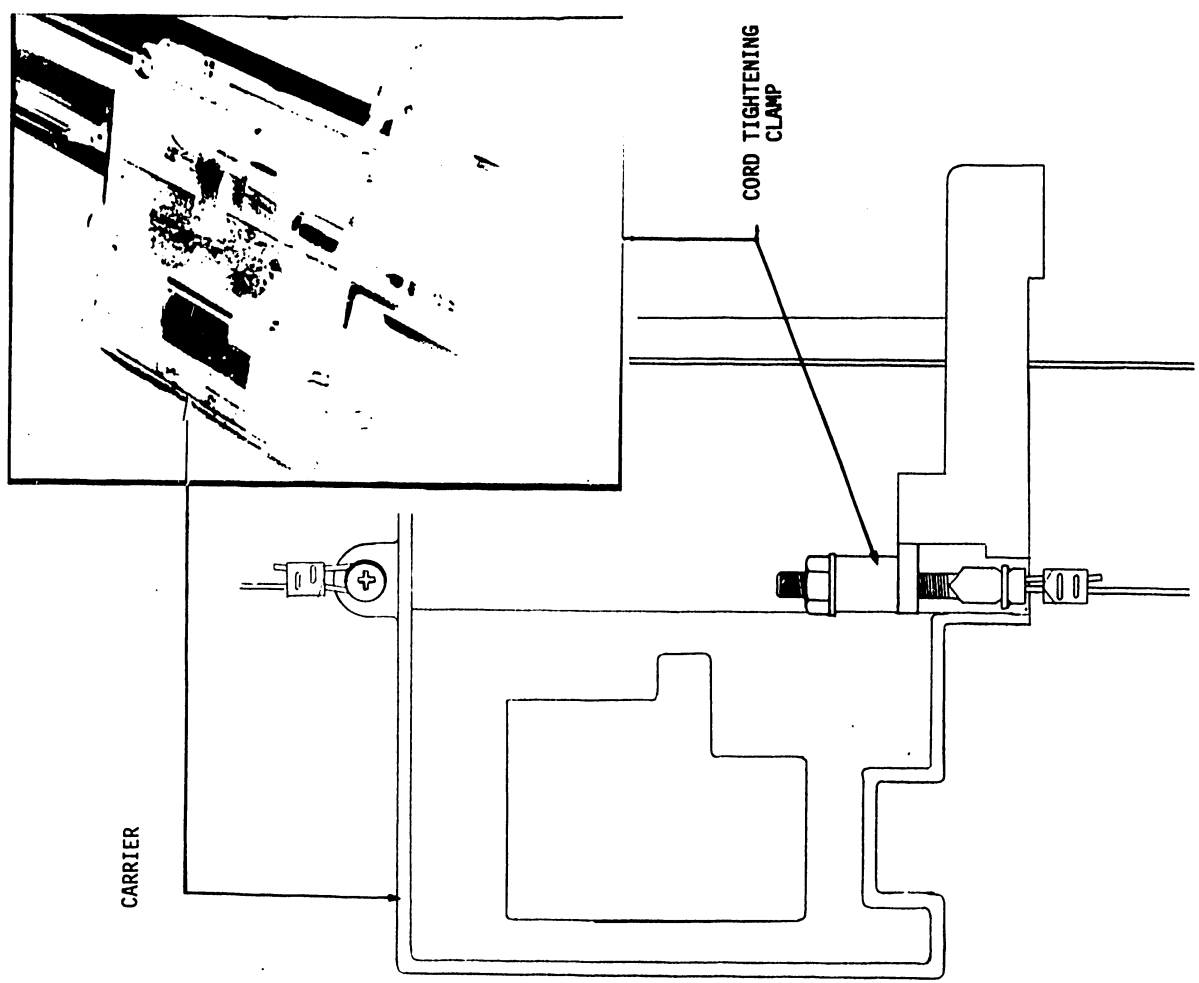

FIGURE 23
- (a) In order to expand the drum, it is necessary to release the cable stress on the drum. To release this pressure, place the carrier somewhere in the middle of the Y arm (arm disconnected from table and laying upside down - SEE 5.18 FOR Y ARM REMOVAL) and loosen the cable tightening clamp underneath the carrier (See Figure 23). Loosen the coils of cable looped around the drum. Since expansion of the drum requires Y arm removal, it is suggested that when the drum is expanded, it is expanded more than necessary. The diameter can then be decreased until the correct diameter setting is reached, section 5.13 #2 (c).